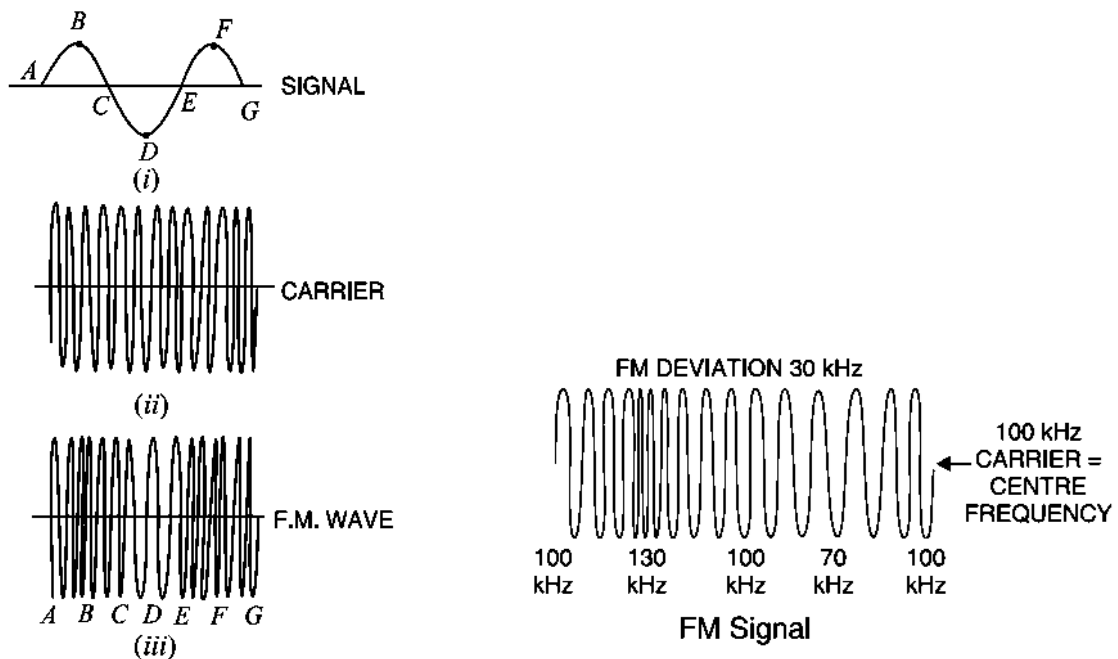

Figure 5-2. Frequency Modulation of waves.
In frequency modulation, only the frequency of the carrier wave is changed in accordance with the signal. However, the amplitude of the modulated wave remains the same *i.e.* carrier wave amplitude. The frequency variations of carrier wave depend upon the instantaneous amplitude of the signal as shown in Figure 5-2 (iii). When the signal voltage is zero as at A, C, E and G, the carrier frequency is unchanged. When the signal approaches its positive peaks as at B and F, the
The process of frequency modulation (FM) can be made more illustrative if we consider numerical values. Figure 5-2 shows the FM signal having carrier frequency $f_c = 100$ kHz. Note that FM signal has constant amplitude but varying frequencies above and below the carrier frequency of 100 kHz ($= f_c$). For this reason, $f_c (= 100$ kHz) is called *centre frequency*. The changes in the carrier frequency are produced by the audio-modulating signal. The amount of change in frequency from $f_c (= 100$ kHz) or *frequency deviation* depends upon the amplitude of the audio-modulating signal. The frequency deviation increases with the increase in the modulating signal and viceversa. Thus the peak audio voltage will produce maximum frequency deviation. Referring to Figure 5-2, the centre frequency is 100 kHz and the maximum frequency deviation is 30 kHz.